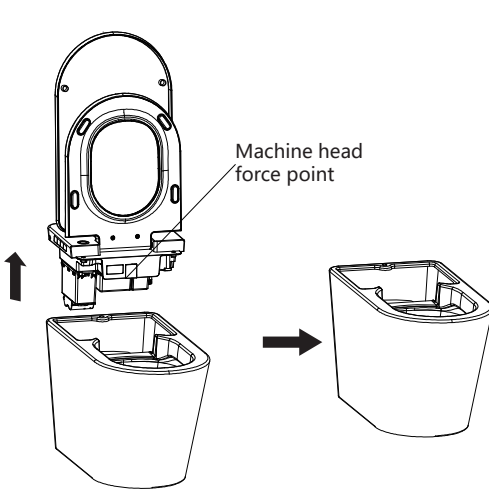

Figure 3
3、 Grab the force point of the head and lift it up with force, using the head and ceramic body separation. (Note: Please do not use force on other parts). (Figure 3)
3. Connect the angle valve filter, water supply hose in sequence as Figure 3.